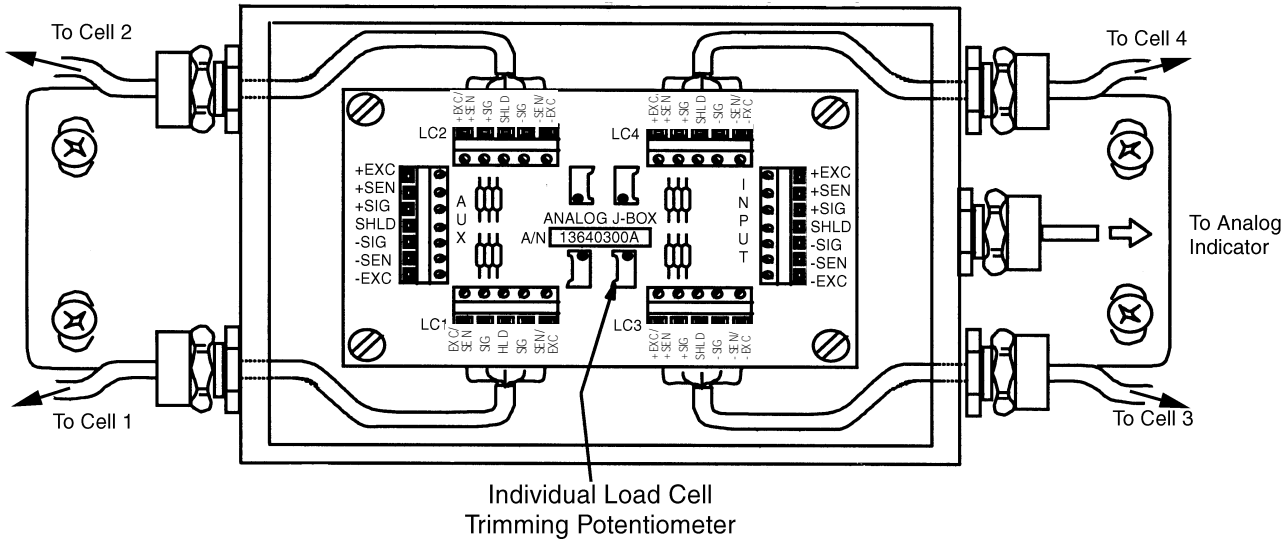
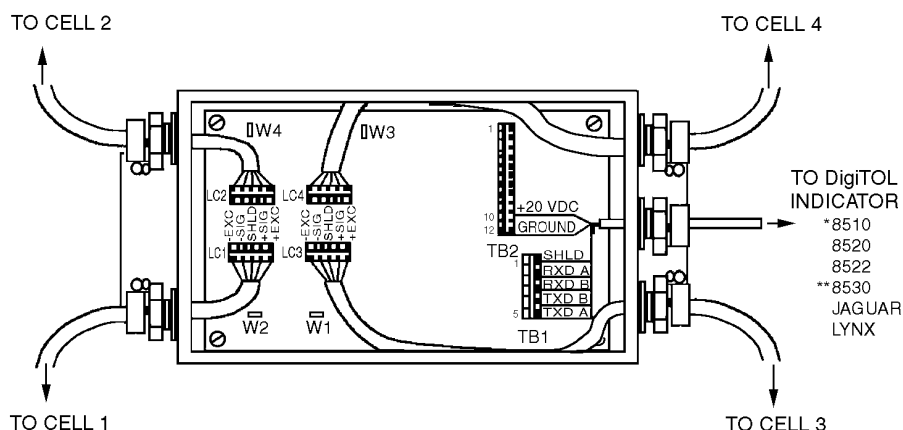

Figure 3-4: Analog Junction Box Detail
Figure 3-5: DigiTOL Junction Box Detail
Ultramount weigh modules can be used with an analog junction box for summing the load cell outputs. Only analog-compatible indicators work with an analog junction box. See Figure 3-4 and Table 3-1 for cable connections.
Ultramount weigh modules can be used with a DigiTOL junction box for summing load cell outputs. Only DigiTOL indicators work with a DigiTOL junction box. In the DLC mode, the indicator serves as the host for the DigiTOL junction box, allowing you to use the indicator's keypad to adjust scale parameters. See Figure 3-5 and Table 3-2 for cable connections. Load cell wiring for DigiTOL DLC mode is the same as for analog mode.
1. Wire the home run cable to the PCB according to Figure 3-4 for Analog, Figure 3-5 for DigiTOL, or Figure 3-6 for IDNet.